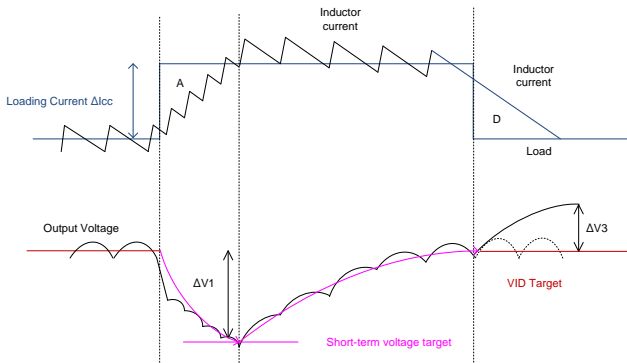

Figure 18. Zero Loadline with AC-Droop Control
Figure 18 shows the condition with AC-droop control. While loading occurs, the controller temporarily changes VID target to short-term voltage target. Short-term voltage target is related to transient loading current ΔI_{CC} and can be represented as the following:
Where the V_{CS} is the current sensing signal from DCR sensing or SPS current sensing. For DCR sensing, the $V_{CS} = I_{CC_MAX} \times DCR$. The current gain (AI) can be set by Pin Setting of AI Gain. Users can select AI gain according to Table 8 to set desired short term voltage target. The short-term voltage target reverts to VID target slowly after approximately 100 μ s. The short-term voltage target can help inductor current not to exceed loading current too much and then the ring back can be suppressed. Referring to Figure 18, the overshoot amplitude is reduced to only $\Delta V3$.